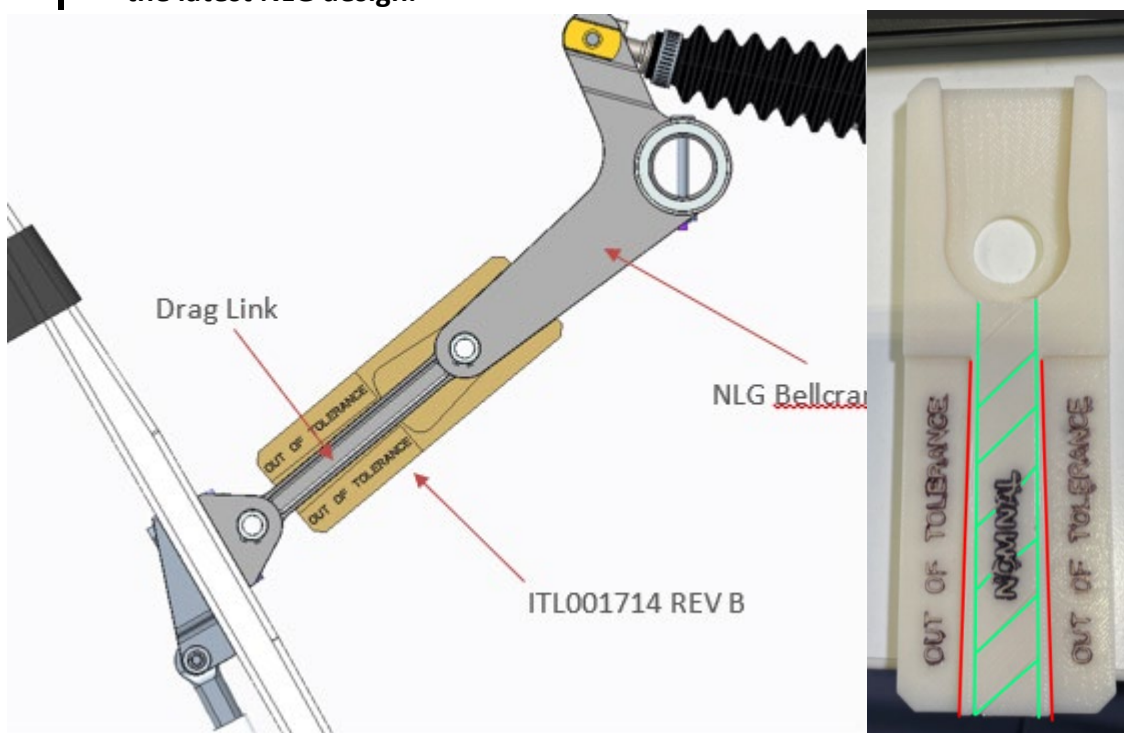

Figure 2 ITL001714 Rev B Indexed on NLG Bellcrank showing the drag link within the “in tolerance” range.
- C Revise time of compliance from 100hr/1yr to 50hr/6mo, until SB-012724-A Retrofit is completed, and upgrade to mandatory. Update list of aircraft affected. Add inspection of bellcrank movement to test actuator health. Add requirement to charge aircraft battery to 14.0 V and change requirement for rigging with weight on wheels. Add reference to SB-012724 for any failed inspections. Add extra photo to Figure 2.
- b. Hold ITL001714 in position. Reference the tool off-of-drag link wrist pin head and bell crank body. Verify drag link is fully in the “in tolerance” window (**Figure 2**). If within tolerance, move to step 2.
- c. If **not in tolerance (Figure 2)**, the nose landing gear needs to be re-rigged within the “nominal range” using ITL001714 Rev B and rigging procedure section below.
- c. **If the drag link indication is not “in tolerance” (Figure 2)**, and the nose landing gear has not been re-rigged in step 1, ensure that the battery is charged as required in Preparation section, step 4 and rig the NLG actuator to the “nominal range” using ICON